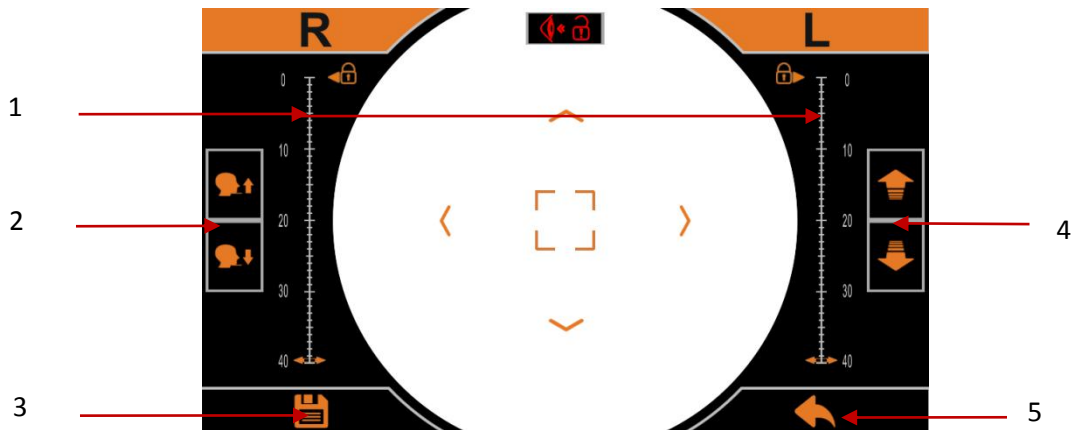

Figure 13 Interface of safety distance setting
5. The safety distance setting button, the safety distance button turns green to indicate that the safety lock is open, the button color turns red, it means that the safety lock is closed. Click to enter the safety distance setting interface, as shown in Figure 13.